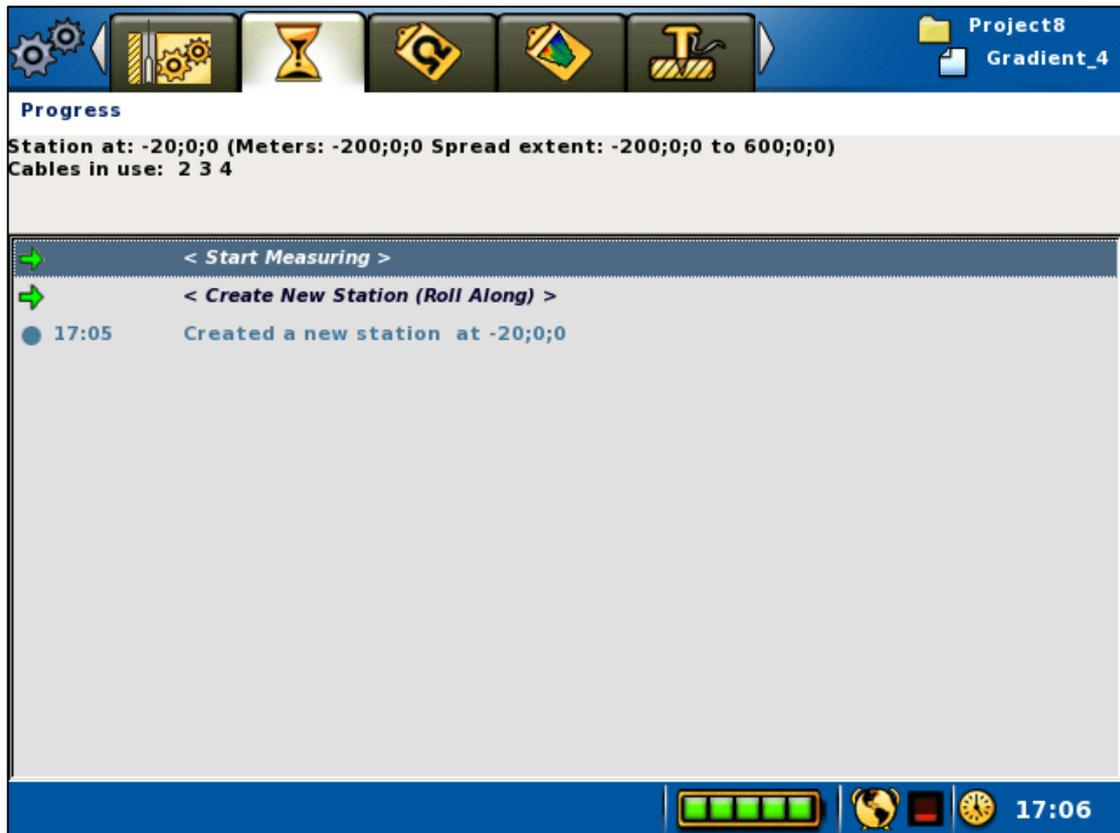
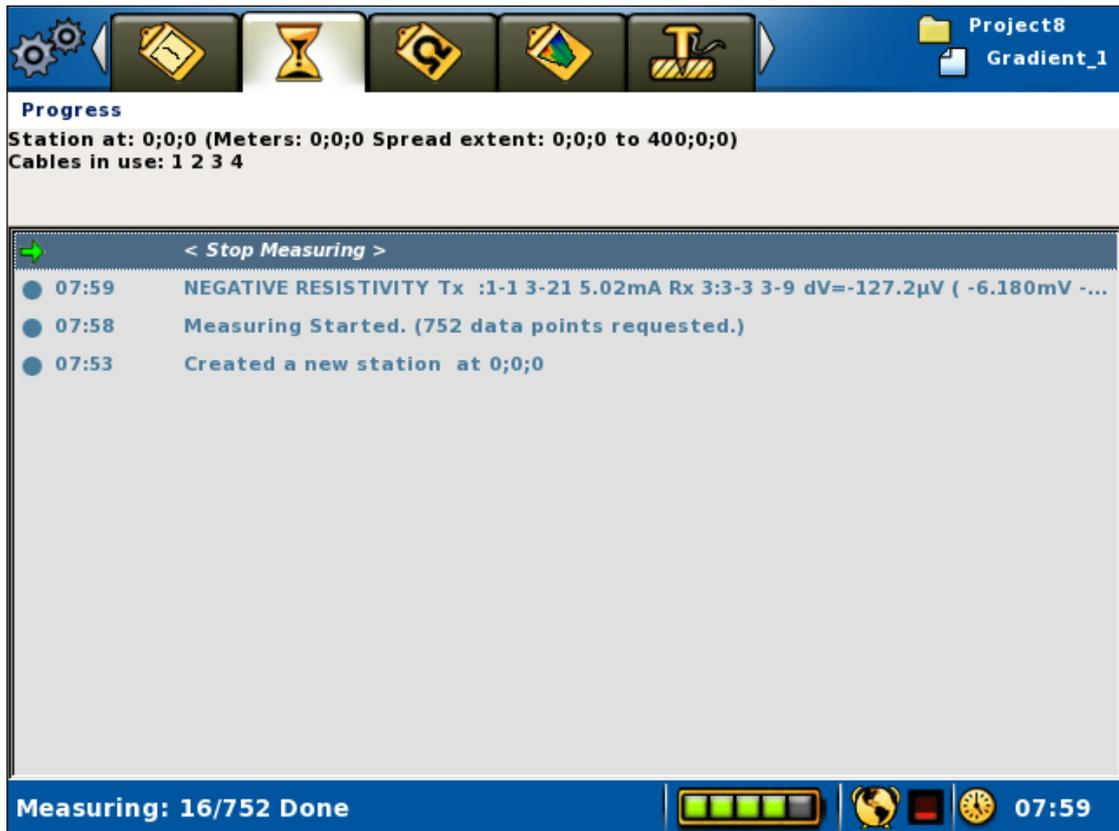

Figure 52 Start measuring command on measuring progress view
Figure 55 Progress view
- Move the highlight to the <Start Measuring> row (Figure 52)
The measuring progress is shown on the “Measure/Progress” View (Figure 55).
The top of the “Measure/Progress” View shows the coordinate location of the cable spread, and which of the cables that still remain to be used by the protocol on the present measurement station (Figure 52 and Figure 55). If all measurements for the cable have been completed it is removed from the list, so that only cables with remaining measurements on the current station are listed on that line.
- Move the highlight to the <Stop Measuring> row (Figure 55)